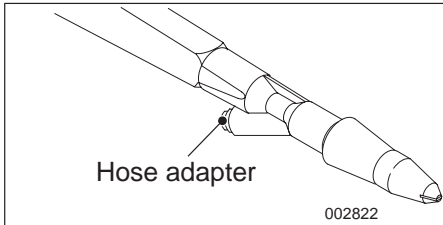

Fig. 2
6. Extract hose adapter from the gun (Fig. 2) and save for the version *Chamber fastened to the system*.